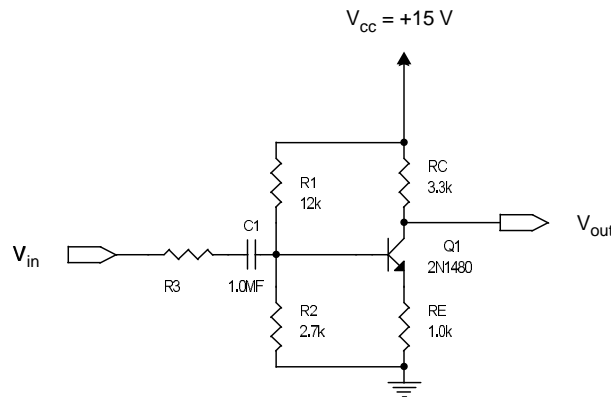

Figure 1: Basic Single Transistor Amplifier
So far we have been concerned only with the properties of the transistor itself. In practical amplifier applications, it is desirable to design a circuit whose properties are predictable, i.e. which don't depend strongly on your accidental choice of a specific transistor. In Fig. 1 we show a very common configuration of base and emitter
5. Next connect the circuit as shown schematically in Fig. 1. Be sure to check the transistor pin-out diagram at the end of the transistor data sheet. (**Transistors** are normally drawn as if you were **looking at the transistor leads from the lead side** while integrated circuits are normally drawn as if you were looking at the pins from above the circuit board, ie from the side away from the IC pins.) Measure V_{CE} , V_E , V_B , and V_{BE} and compare with your calculated values. (They should agree within $\sim 10\%$).